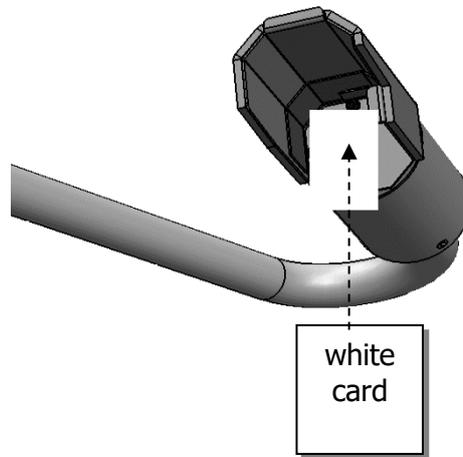

Figure 4-1 Transmitter hood with white card
Step 4. Insert a white card (or paper) in the transmitter hood that blocks and almost touches the window (see Figure 4-1 Transmitter hood with white card).